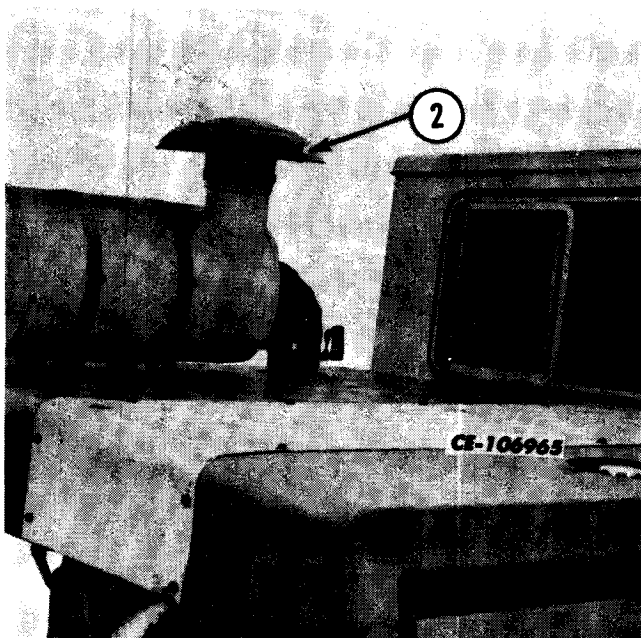

Fig. 2
2. Air cleaner weather caps (Fig. 2). Loosen the clamp screws and remove the caps by twisting and pulling upward. Clean the screens with compressed air or wash in clean hot water preferably containing a small amount of non-sudsing detergent.